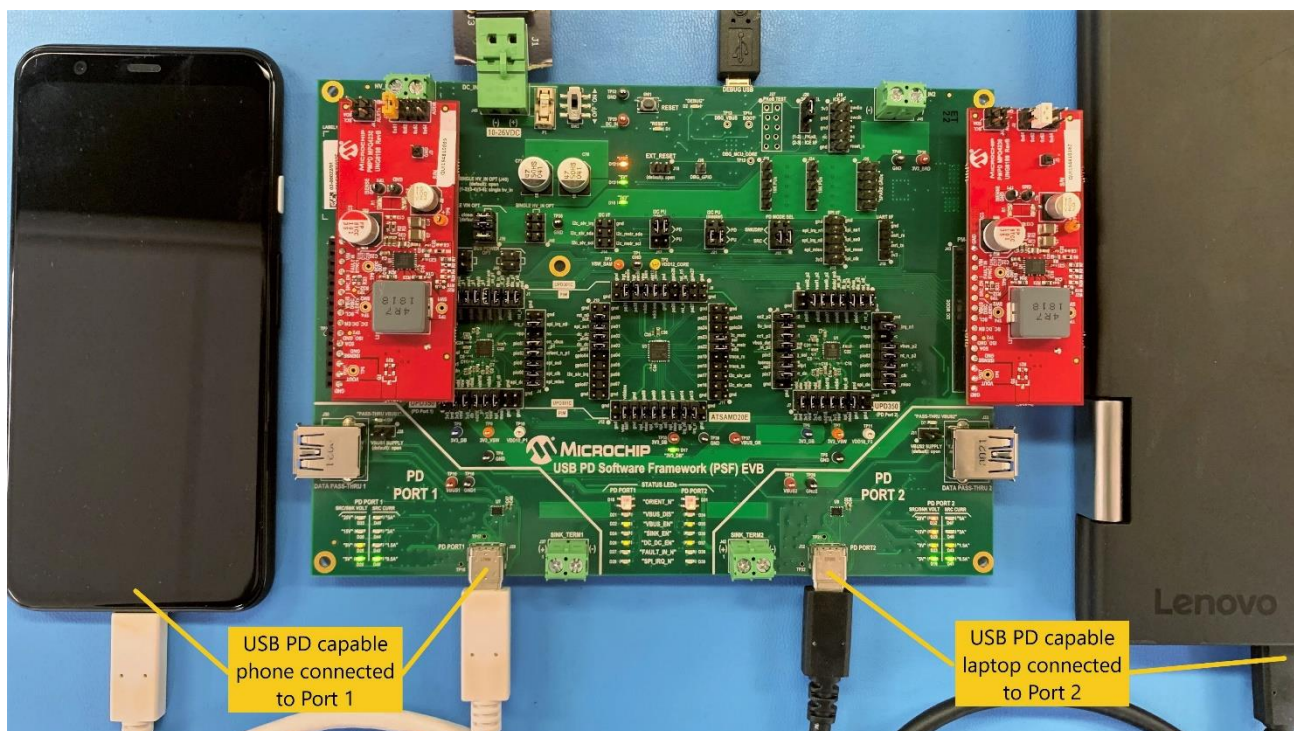

Figure 6.2 PD Capable phone connected to Port 1 and PD Capable Laptop connected to Port 2
6. The Figure 6.2 demonstrates a scenario where a PD Capable phone has been connected to Port 1 and PD Capable laptop has been connected to Port 2